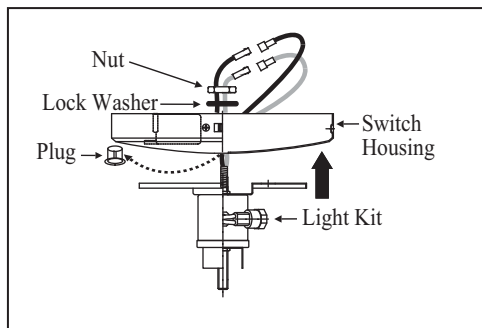

Figure 17
1. Remove the plug from the switch housing cover. Attach the light kit to the switch housing by feeding the light kit wires (black and white) through the hole of switch housing and then screw it onto the switch housing by nut & lock washer. Be sure it is tight enough to prevent light kit from vibrating loose. (Fig. 17)